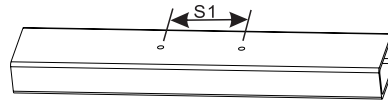

Figure 4
2. Drill two holes of distance S1 on the mounting bar (Figure 4).